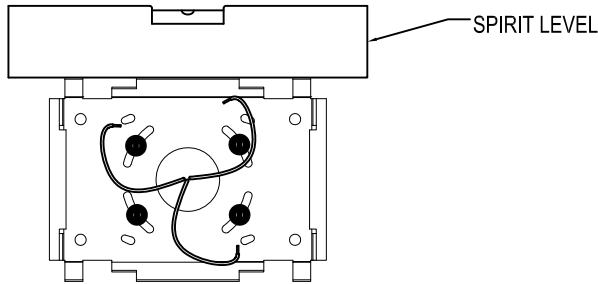

FIGURE. 5
5. LEVEL MOUNTING PLATE TO WALL USING A SPIRIT LEVEL. SEE FIGURE 5.